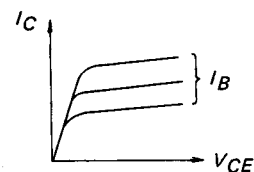

Fig. 11
2. The characteristics of this drive transistor are indicated in Fig. 11. The variation of collector current I_C relative to collector-emitter voltage V_{CE} is not sinusoidal, but produces a square wave that causes unnecessary vibration in the motor.